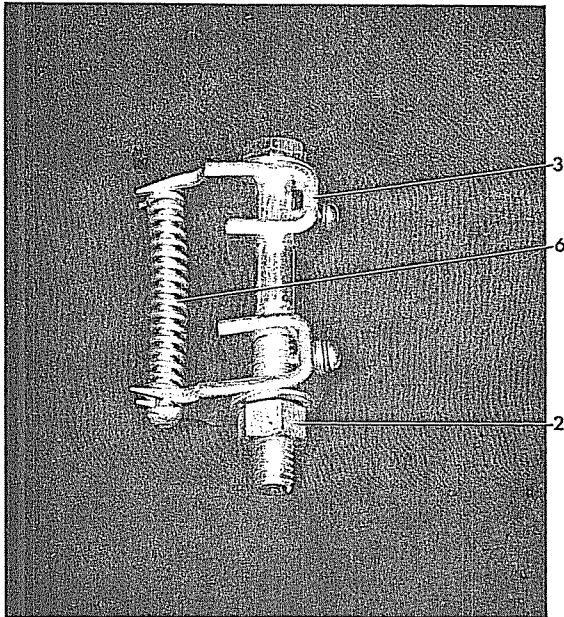

Figure 22A (8034466)
1. Apply a thin coating of D50H47 grease on the hinged edge of the finger (9) then place it on the contact support (7) so that it is retained by stop plate (8).
2. Open spring compressor (3) and assemble spring guide, spring and spring compressor (Figure 22A).